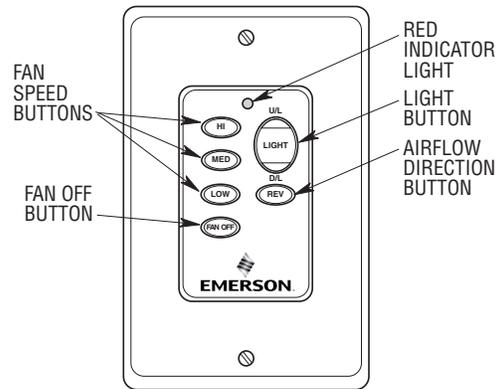

Figure 30
Your SW116 Fan/Light Wall Control (Figure 30) has full control of your fan, lights, and airflow direction.
1. To set the desired fan speed, push the HI, MED, or LOW buttons to operate your fan on high, medium or low speed (See Figure 30).